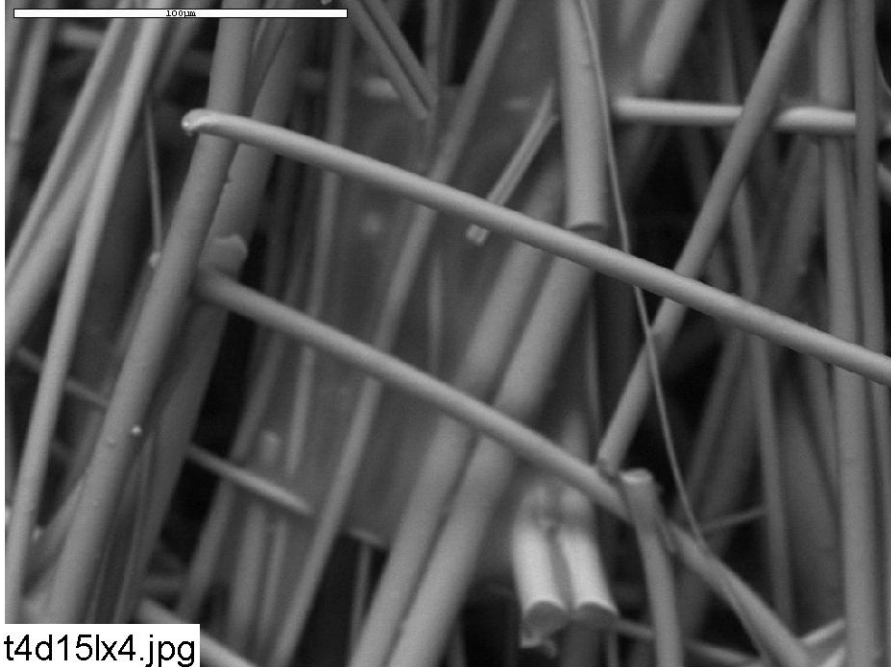

Figure B1-3. Environmental SEM image magnified 500 times for a Test #4, Day-15 exterior low-flow fiberglass sample. (t4d15lx4.jpg)
- Figure B1-3. Environmental SEM image magnified 500 times for a Test #4, Day-15 exterior low-flow fiberglass sample. (t4d15lx4.jpg)..... B1-5
| Image: | t4d15lx4 | 500 × | ESEM image of fiberglass | Figure B1-3 |